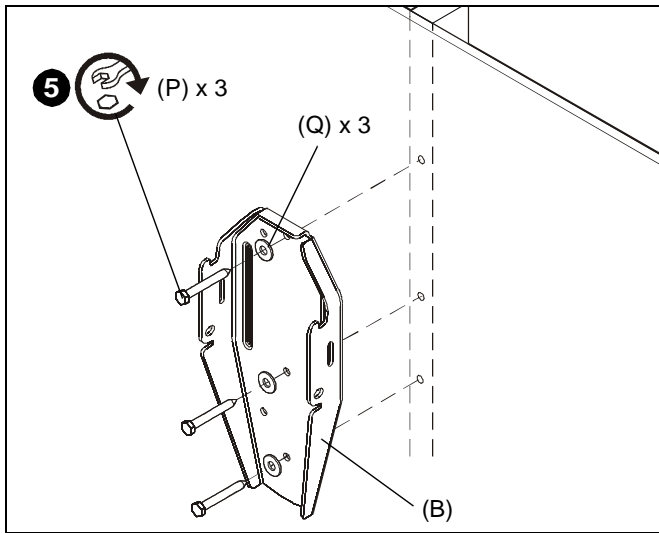

Figure 4
5. Install three 5/16 x 2-1/2" hex head lag screws (P) through three 5/16" washers (Q), inner holes of wall bracket (B) and into drilled holes. (See Figure 4)